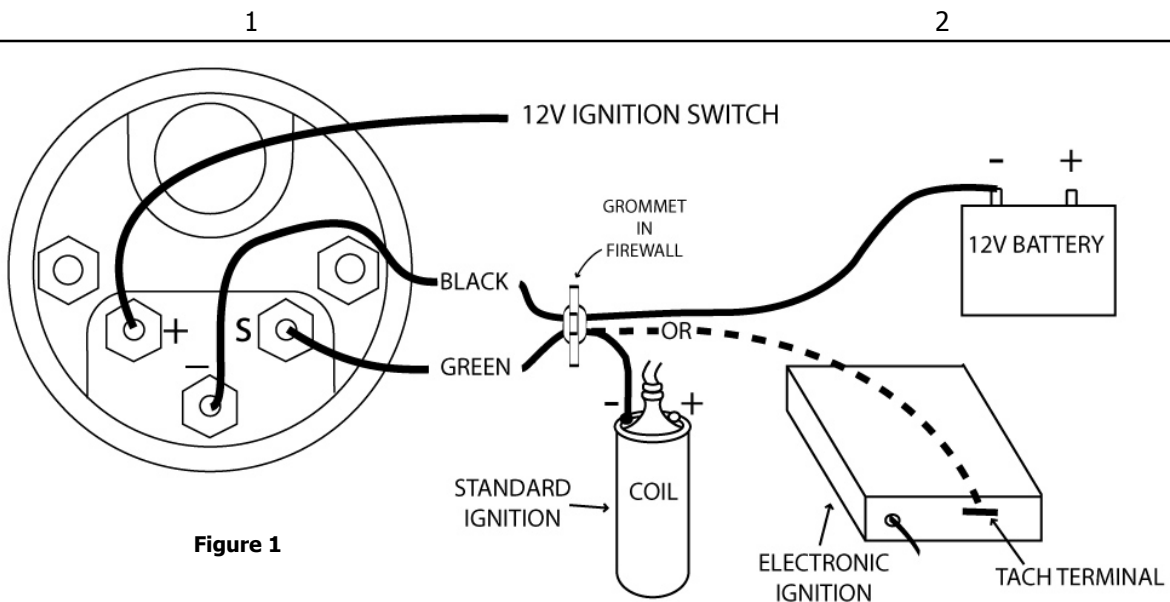

Figure 1
G.U.S.™ WIRING (Figure 1):
4. Using 18-ga. wire, connect the (S) terminal the coil negative or the tachometer terminal of the ignition module.